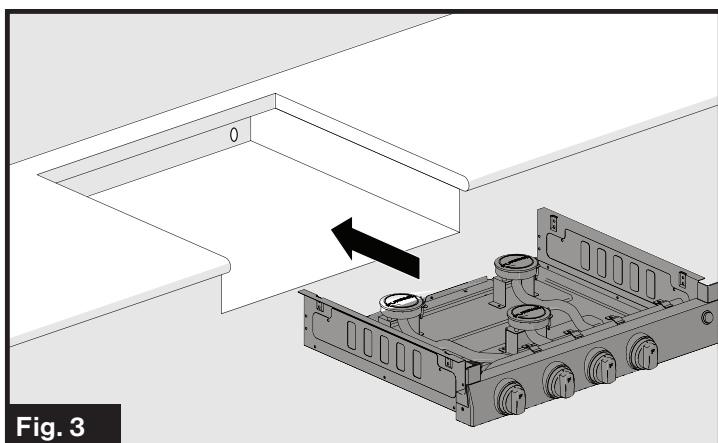

Fig. 3
- Slide the cooktop into the cabinet opening. Verify that the cooktop is level from side to side and front to rear. (Fig. 3)